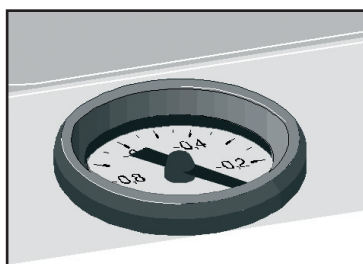
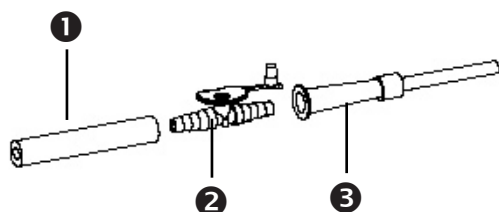

Fig. 3. Vacuumgauge
Fig. 4.
- Adjust your desired maximum vacuum by closing the suction hose opening with the finger (①, fig. 4) the vacuum is then generated. Open the regulating valve (⑥, fig. 1, page 4) until the vacuumgauge shows the desired vacuum value (fig. 3).
- Choose a suction catheter of the right size (e.g. Unoplast catheters ③, fig. 4, which are available from ATMOS in 3 different sizes) or a suction instrument which is only available from specialized dealers.
- Join the suction hose (①, fig. 4) and the suction catheter (③, fig. 4) by means of the finger tip (②, fig. 4).